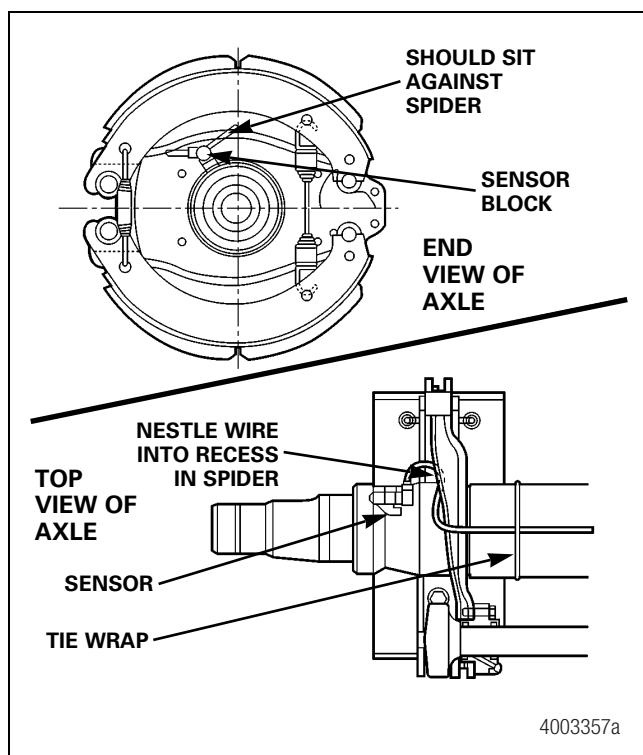

Figure 13.12
2. Route the ABS wires on TN and TQ model axles equipped with cam brakes without an ABS spider hole as follows. Figure 13.12.